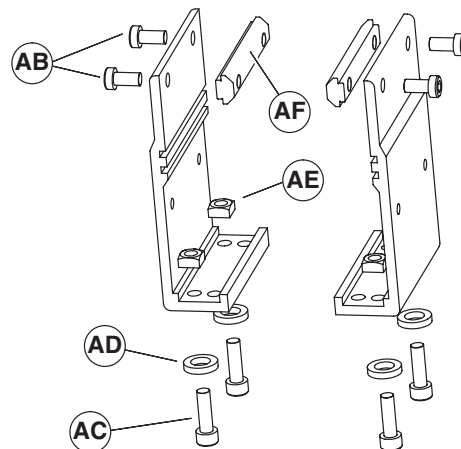

**Figure 9**
5. Slide belt (Figure 9, item Q) over assembled conveyor sections (AA).